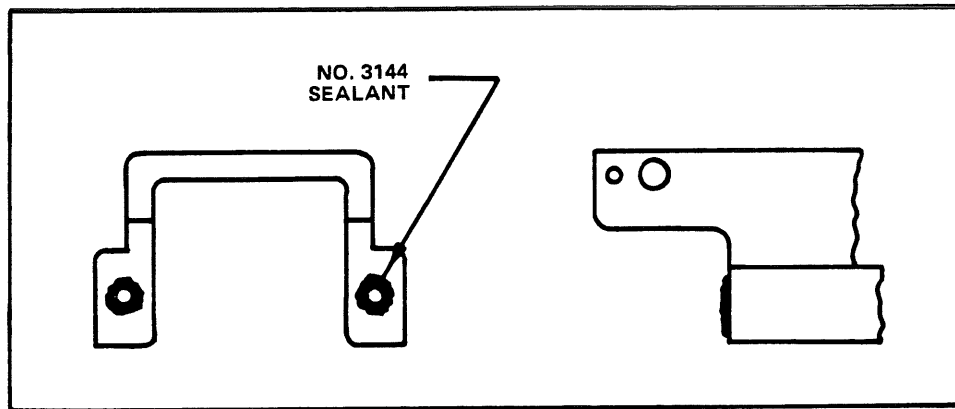

Figure 35. Sealing of latch assembly screwholes.
STEP 33. Attach Latch Assemblies (2 ea.) to the Front Cover (see Figure 35)
- (1) TPN 200-1759-00, MPL Item 1-29.
- (1) Clean mating surfaces of Front Cover and Latch Assembly with isopropyl alcohol.
- (2) Apply No. 3144 sealant to the two screw-holes in each Latch Assembly as shown in Figure 35.
- (3) Attach the two Latch Assemblies to the Front Cover.